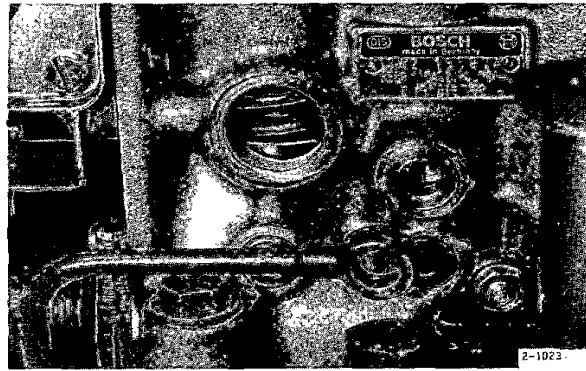

Fig. 131. Lifter in its lowest position
Make sure that the lifter is in its lowest position (fig. 131).
7. Turn the engine back against the direction of rotation abt. 1/4 turn. Check that the lifter is in its lowest position (fig. 131).